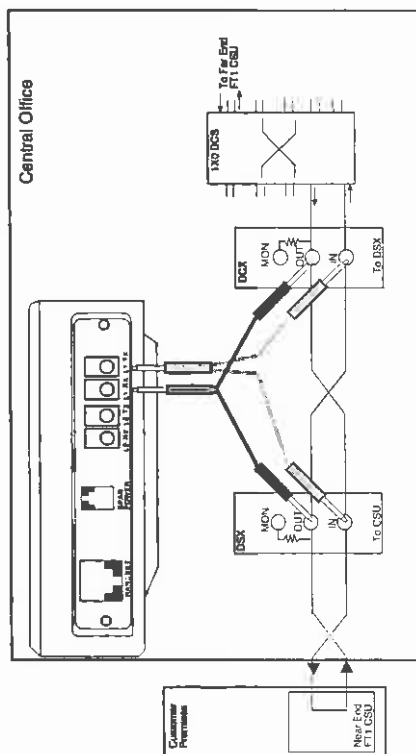

Figure 112 Plugging into the FT1 Circuit
This is an acceptance test procedure for a fractional T1 circuit. Refer to Figure 112, Plugging into the FT1 Circuit. This is an advanced test procedure, which should only be attempted if the user is already familiar with the T1 test procedures described earlier in this section. Verify that the fractional circuit is not in service. This acceptance test will disrupt service.
2. Connect the test set to the circuit at one of the term access points shown in Figure 112, Plugging into the FT1 Circuit. Make sure you know which end of the circuit you are facing.